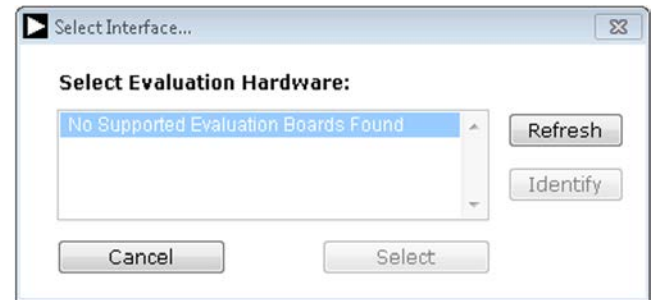

Figure 16. Connectivity Error Alert
2. If the **AD7768-1** evaluation system is not connected to the USB port via the  **EVAL-SDP-CH1Z**  when the software is launched, a connectivity error displays (see Figure 16). Connect the evaluation board to the USB port of the PC, wait a few seconds, click **Refresh**, and then follow the on screen instructions.